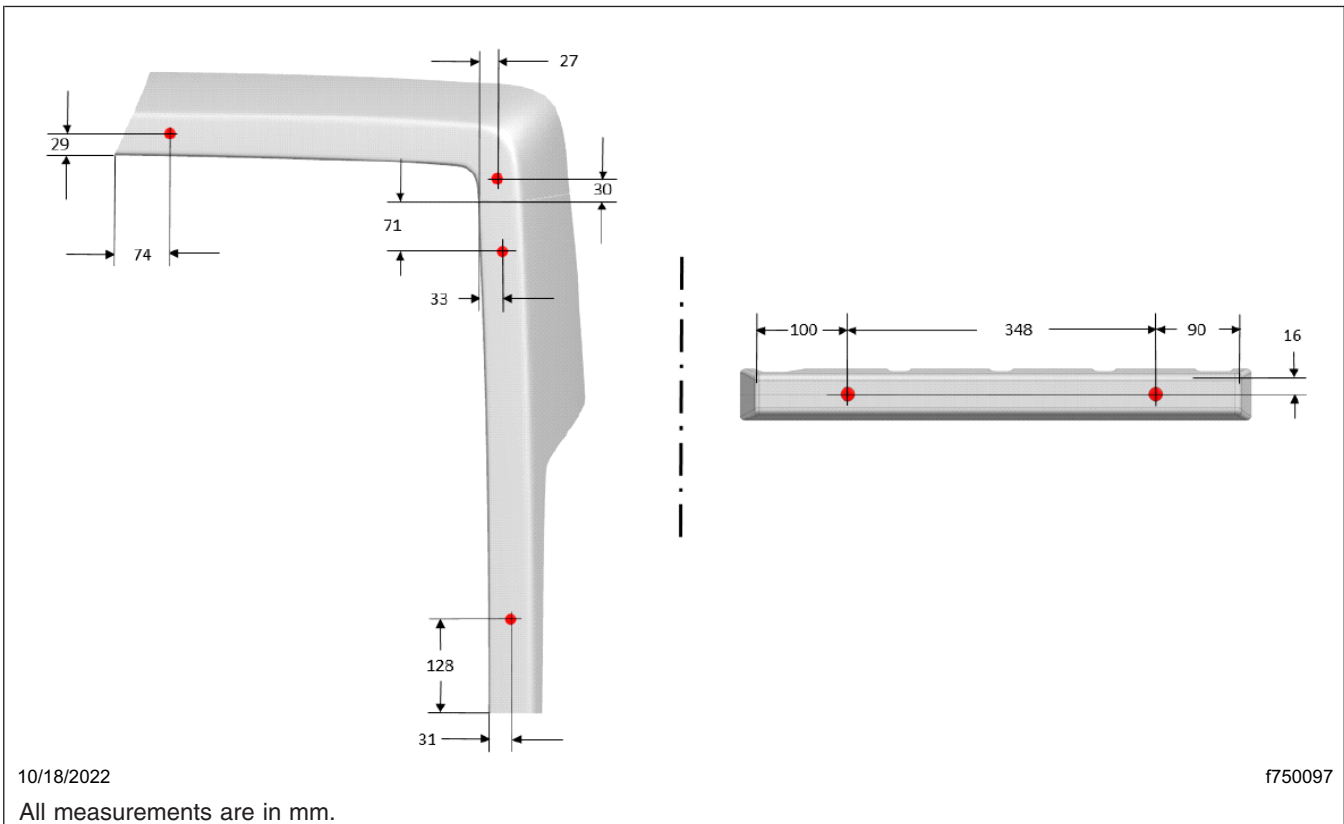

Fig. 3, Drilling Location Measurements (left-hand hood and grill bezels shown)
8. Mark all the drilling locations using the measurements provided in Fig. 3.